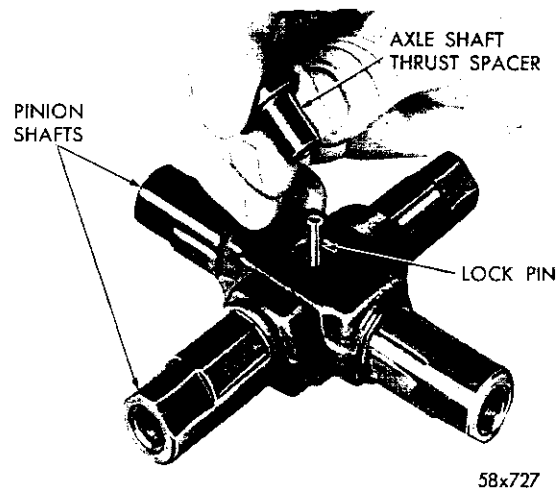

Fig. 43—Installing Axle Shaft Thrust Spacers
(2) Place the side gears in their retainers. Insert splines of the retainers through the splines of the clutch discs.
(3) Place the aligning pin through one axle shaft thrust spacer. Assemble the pinion shafts on the aligning pin.
(4) Place the pinion gears on the shafts and install the assembly on the drive gear half of the case. Insert the thrust spacer in the pinion shaft (Fig. 43).
(5) Slide the cap half of the case over the edge of the bench far enough to insert one finger up through the assembly to hold it together. Place the assembly on drive gear half, matching the scribe marks.
(6) Make sure the markings on each differential